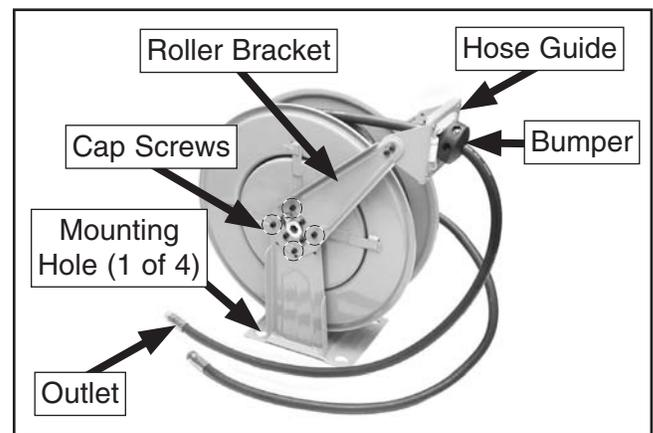

Figure 3. Roller bracket and main components.
2. Check that the hose guide roller bracket position (see **Figure 3**) is suitable for the chosen mounting position.
3. Mark the location of the mounting holes on the reel base (**Figure 3**) in the chosen location, then secure with $\frac{3}{4}$ " hardware.
2. Remove the four cap screws on each roller bracket, (see **Figure 3**) rotate both brackets together to the alternate position, then re-install the cap screws.